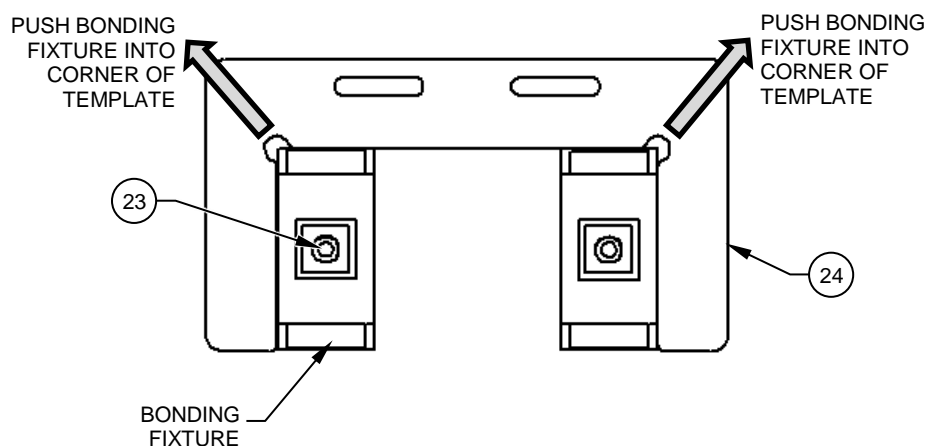

Figure A-3
7. Position the bonding fixtures so that they are pushed into the corners of the Template, Detail (Item 24). This will ensure correct stud spacing. Push down on the outside edges of the bonding fixtures to adhere the fixtures to the substrate. Reference Figure A-3.